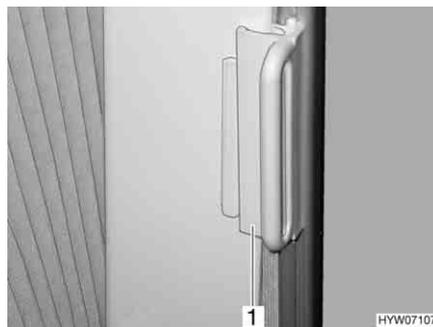

Fig. 22 Locking mechanism for Roman shade on driver's/front passenger's windows
- On the Roman shades for the driver's and passenger's window, push the handle (Fig. 22,1) onto the cap. The Roman shade is secured.